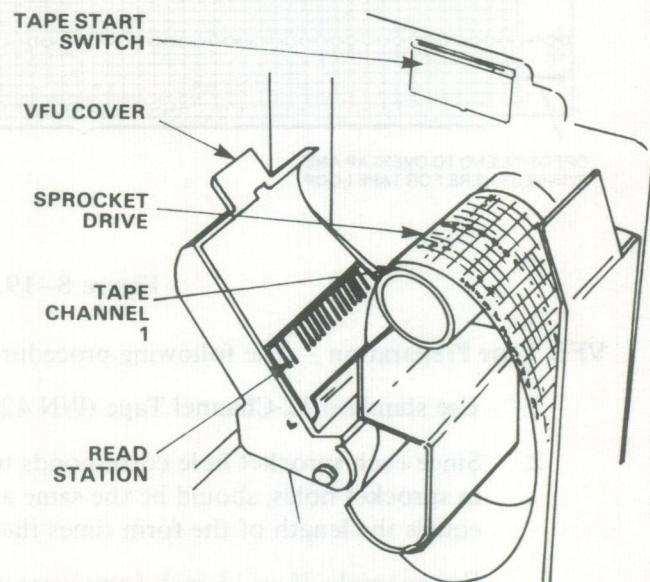

Figure 8–20. VFU Reader
2. Open the VFU cover (Figure 8–20) and install the tape with the sprocket drive so that Tape Channel 1 is oriented towards the front of the printer. Ensure that the tape is threaded through the station as shown in Figure 8–20.